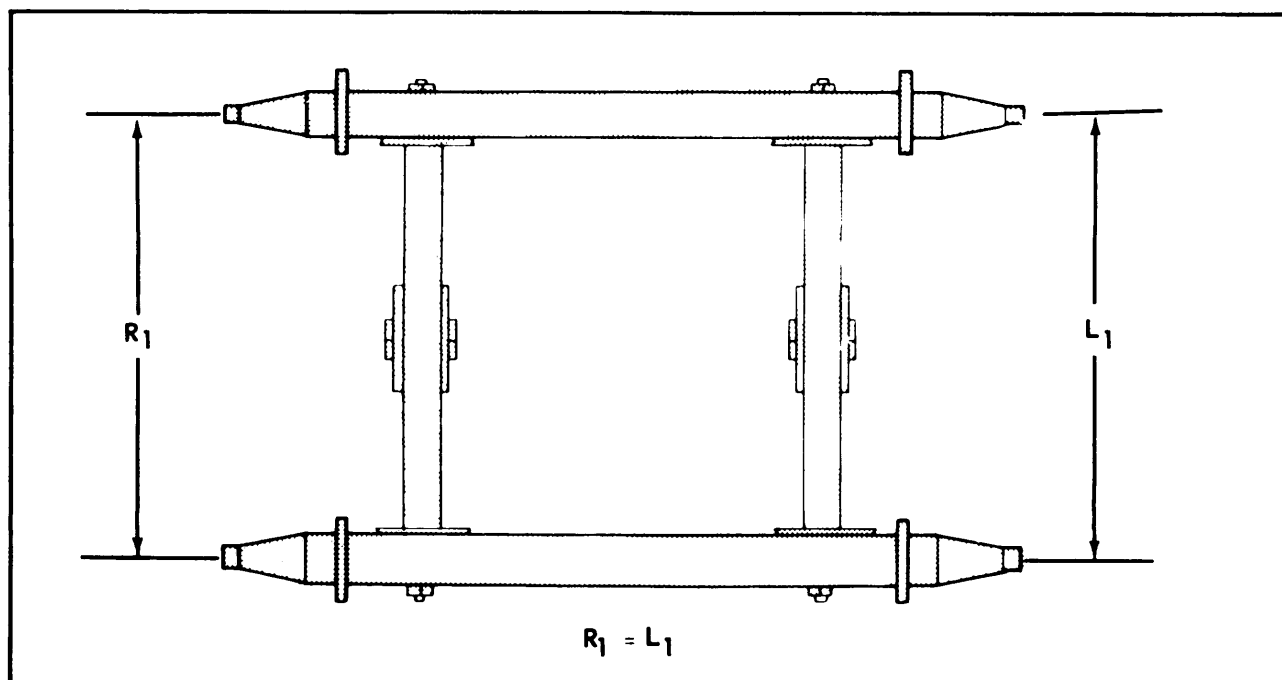
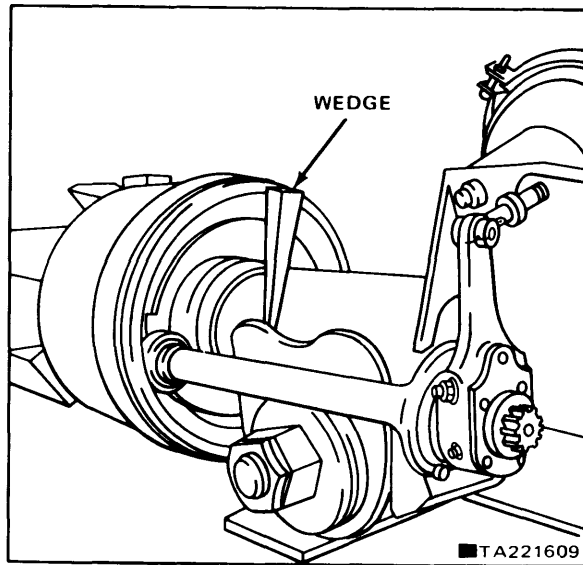

FIGURE 10-13. EQUALIZING AXLE CENTERS.
FIGURE 10-14. WEDGING BETWEEN CAST RETAINER AND AXLE TO OBTAIN FINE ADJUSTMENT OF AXLE CENTERS.
f. Check the distance from the center of the spindle of one axle to the center of the other. Check this distance on the other side (see figure 10-13). If these distances are not equal ($R1=L1$), place a wedge between the axle and saddle to get them the same (see figure 10-14).